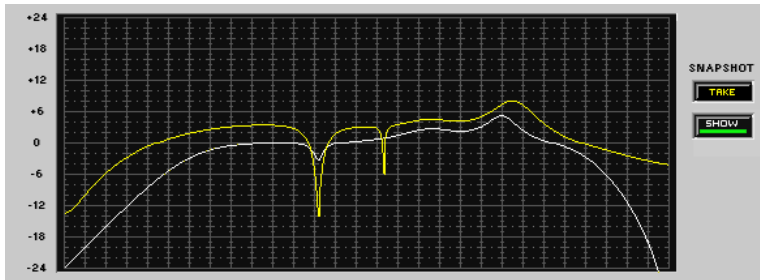

Figure 25 – Reshaping the Response Curve
3. Change the processor settings. As you reshape the curve, you will be able to compare it to the snapshot of the previous curve showing in the background, as shown in figure 25.